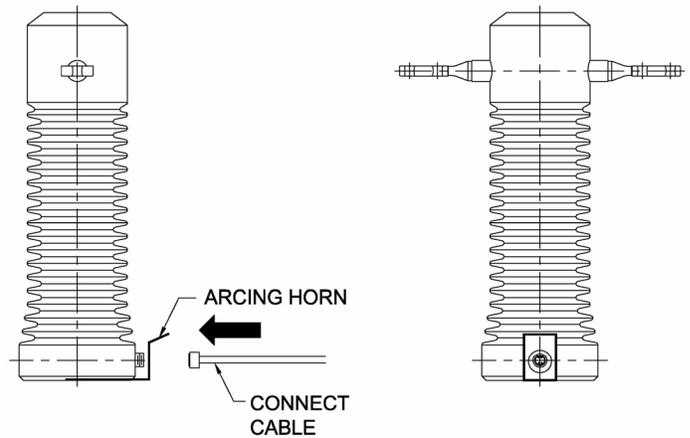
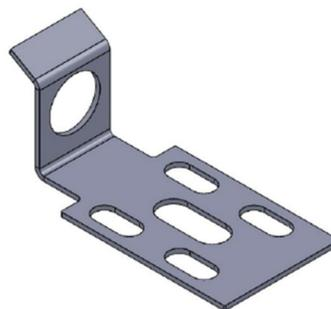

Figure 1: Busbar-style sensor showing proper orientation of arcing bracket
Figure 3: Arcing bracket (arcing horn) supplied with sensor
Included with the sensor is an arcing bracket (also known as an arcing horn), P/N R-26525 (See Figure 3) which will be installed under the sensor per Figure 1.
- Place the provided arcing bracket (see Figure 3) underneath the sensor and mount both on the crossarm or other mounting surface. The connector socket on the sensor must be aligned with the hole in the arcing bracket. See Figure 1.